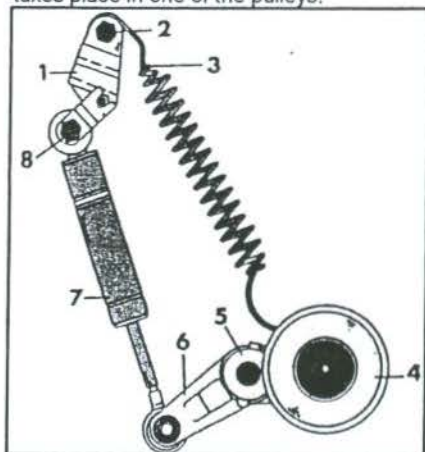

Fig. 1.89. – The component parts of the belt tensioning system.
The tensioner roller of the system is held under constant tension by means of a tension spring. A fitted shock absorber prevents vibration in the belt system. Fig. 1.89 shows the component parts of the system in detail. The tensioning rollers are not the same on all engines. Basic models without additional belt-
- Refer to Fig. 1.89 and slacken the flanged nut for the tensioning lever (1). Insert a suitable drift into the spring tensioning lever (1). The drift should have a diameter of 12 - 13 mm and must be 300 mm long.